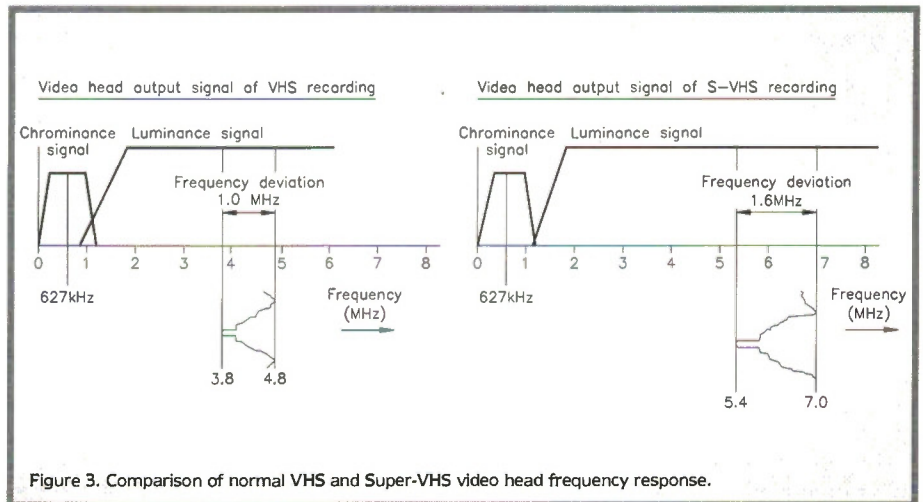
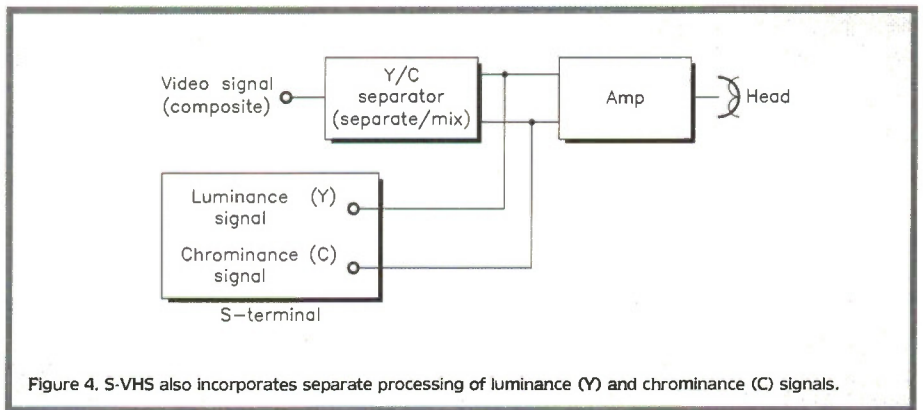

Figure 3. Comparison of normal VHS and Super-VHS video head frequency response.
Figure 4. S-VHS also incorporates separate processing of luminance (Y) and chrominance (C) signals.
cessing of the luminance (Y) and chrominance (C) signals (refer to Figure 4), reducing such effects as spurious colour on finely patterned areas, and allowing European S-VHS VCRs to handle both PAL and SECAM TV systems, while an increase in frequency deviation from 1 to 1.6MHz improved both dynamic range and S/N ratio (shown in Figure 3). The standard VHS cassette was retained, but with an additional identification hole. The tape, however, required finer magnetic particles to cope with the sub-micrometre wavelengths resulting from the increased luminance bandwidth. Because of these changes, VHS and S-VHS recordings are not directly compatible: all S-VHS VCRs do have the facility to record and play VHS tapes (with no quality improvements); but VHS machines cannot play S-VHS recordings unless quasi S-VHS playback circuitry is incorporated, but the result will be VHS quality.